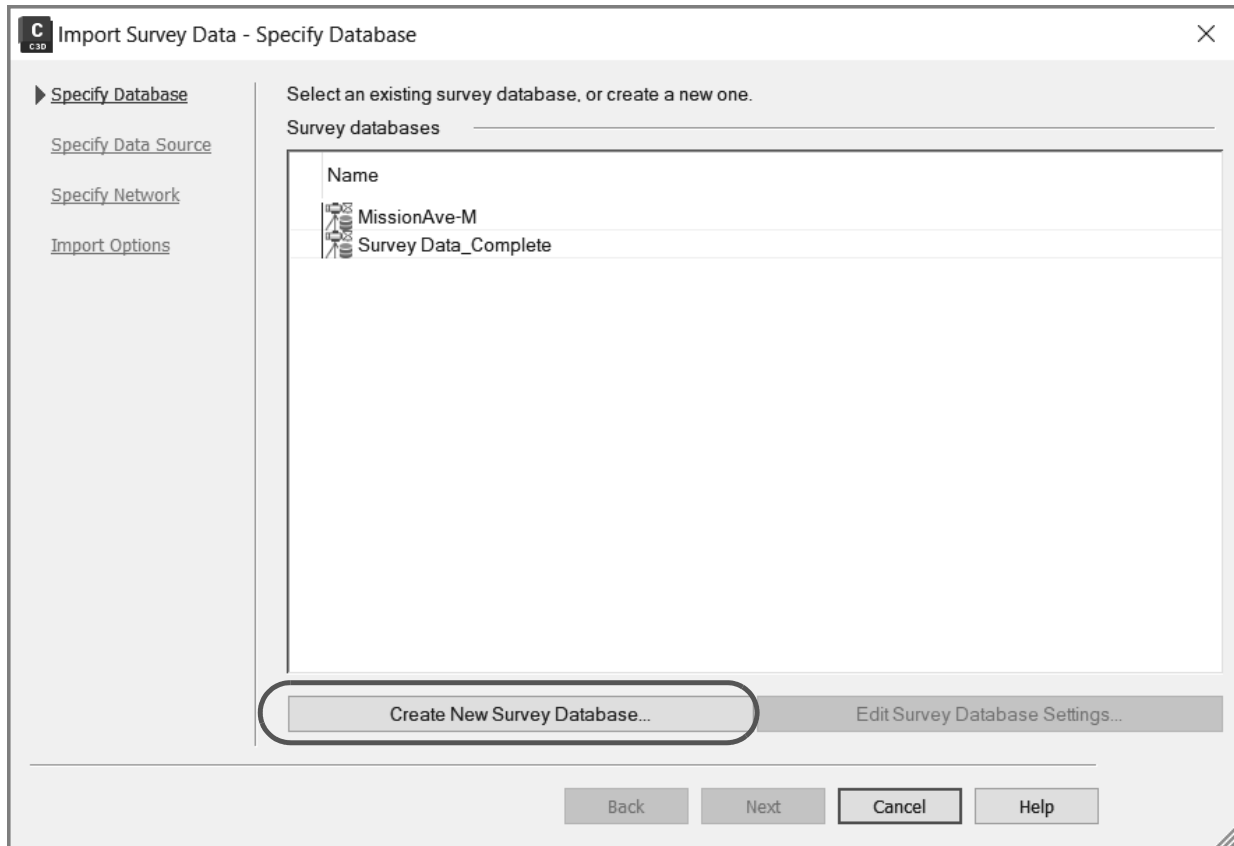

Figure 2–44
7. Click **Edit Survey Database Settings...** as shown in Figure 2–45.